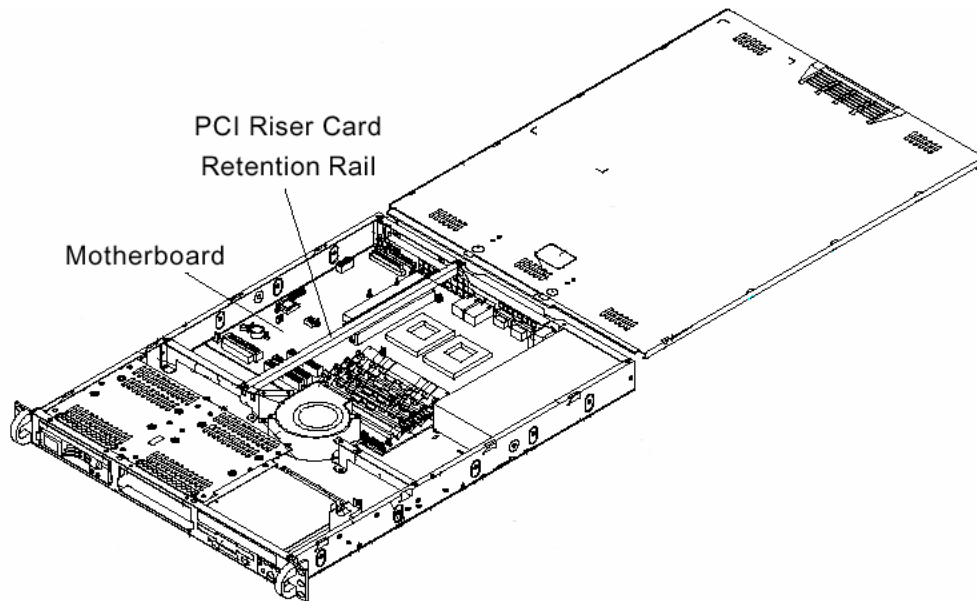

Figure 19: Location of PCI Riser Card Retention Rail
2. Unscrew the retention rail (shown in figure 19 on the next page)